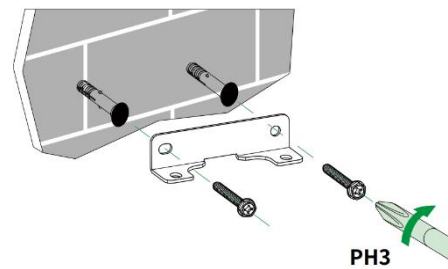

Figure. 18 Fixing mounting bracket
(4) Insert $\Phi 8 \times 60$ plastic expansion tubes into the four mounting holes, and fix the mounting bracket to the two mounting holes below with a PH3 screwdriver and two M6*50 self-tapping screws, as shown in Figure. 18; confirm the levelness with a level ruler after fixing the mounting bracket.